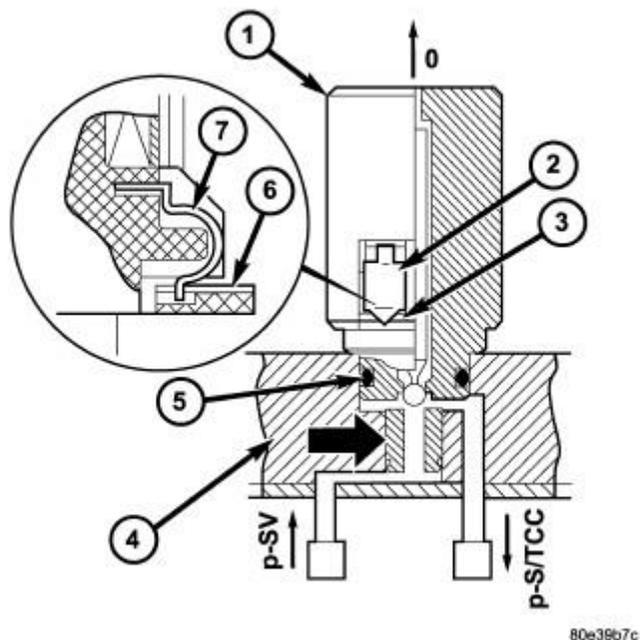

Fig. 202: Cutaway View Of Torque Converter Lockup Clutch PWM Solenoid Valve
The torque converter lockup clutch PWM solenoid valve (1) is located in the shell of the electric valve control unit and pressed against the shift plate by a spring. Refer to **Fig. 202**.